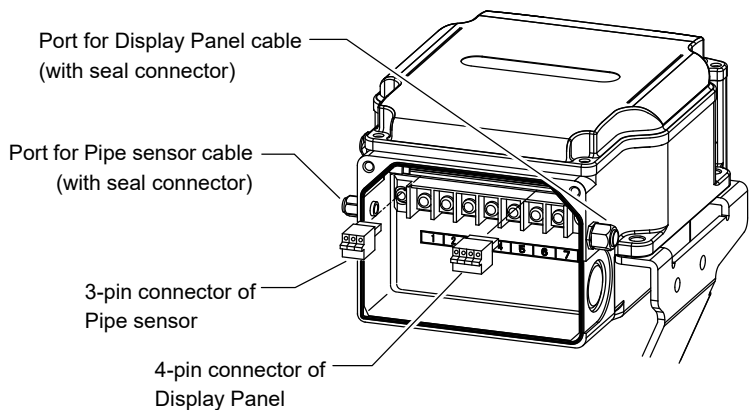

Figure 13. 4-pin connector and 3-pin connector
- 2) Lead the cable connected from Display Panel through the port (for the Display Panel cable) of the actuator. Refer to Fig. 13 for the port location.